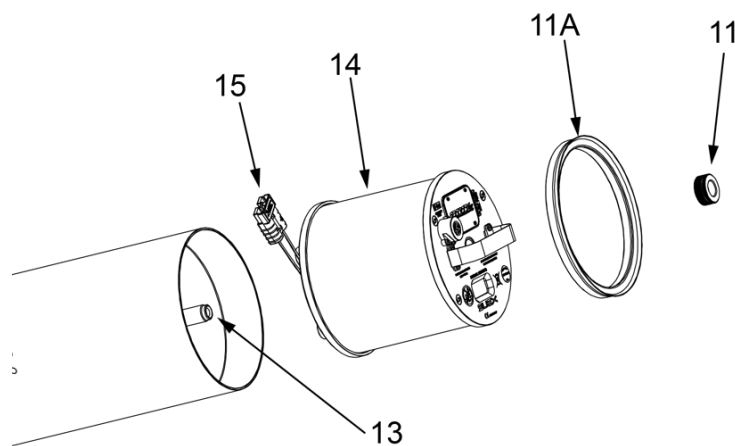

Fig 29 - Battery extraction
Once the cap has been removed, unscrew the ring nut (11), extract the drop drap ring (11A) and remove the battery (14) by pulling it upwards by sliding it off the rod (13 - **Fig 29 - on p. 26**). When the battery is completely removed, disconnect the red connector (15).